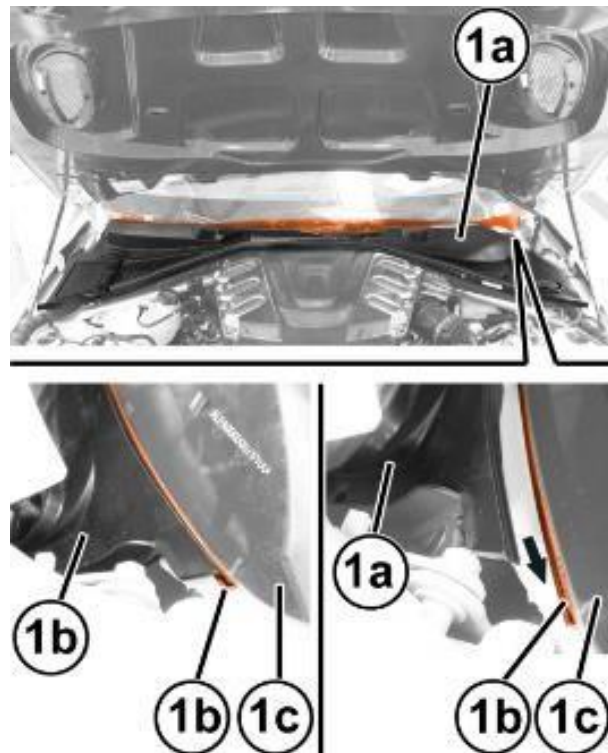

Figure 25 – Windshield Trim
53. Position the windshield base trim (1a) in position and engage the retaining profile (1b) along the entire windshield base (1c) (Figure 25).
NOTE: If necessary, use soapy water to facilitate inserting the trim (1a) into the retaining profile (1b) (Figure 25).